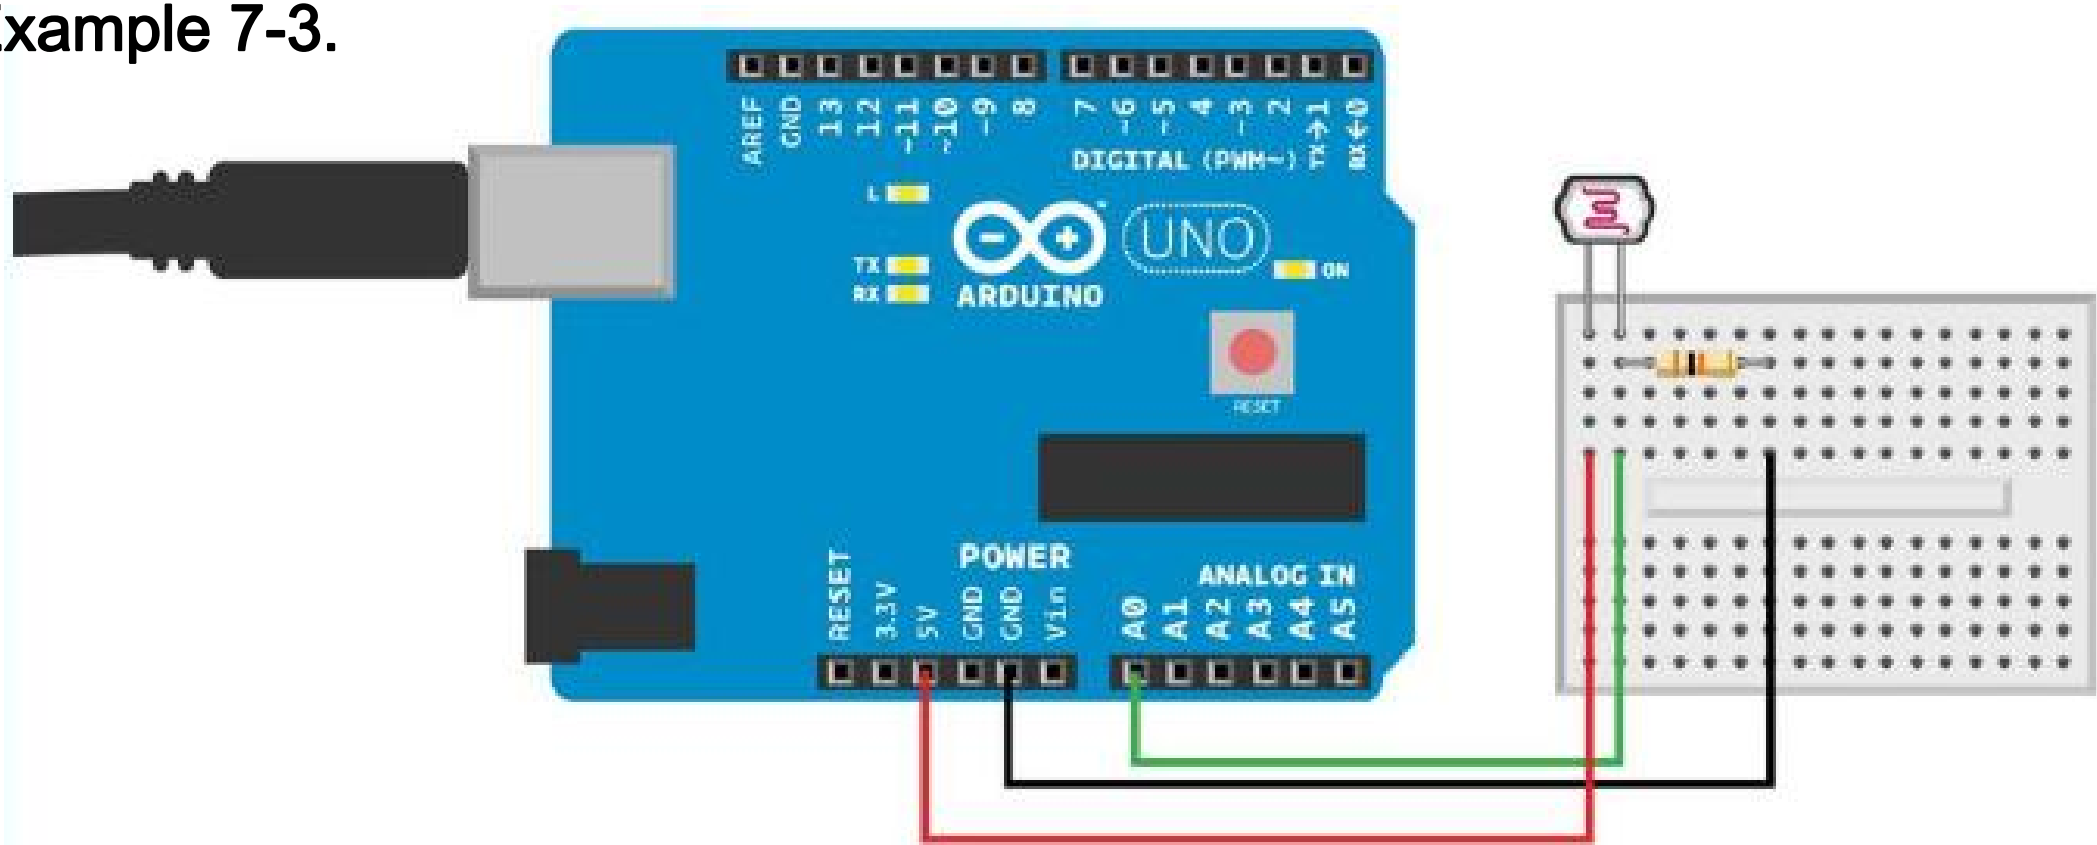

Figure 7-9. Photoresistor circuit for Arduino
- Wire up the LDR as shown in Figure 7-9, and then run the sketch shown in Example 7-3.